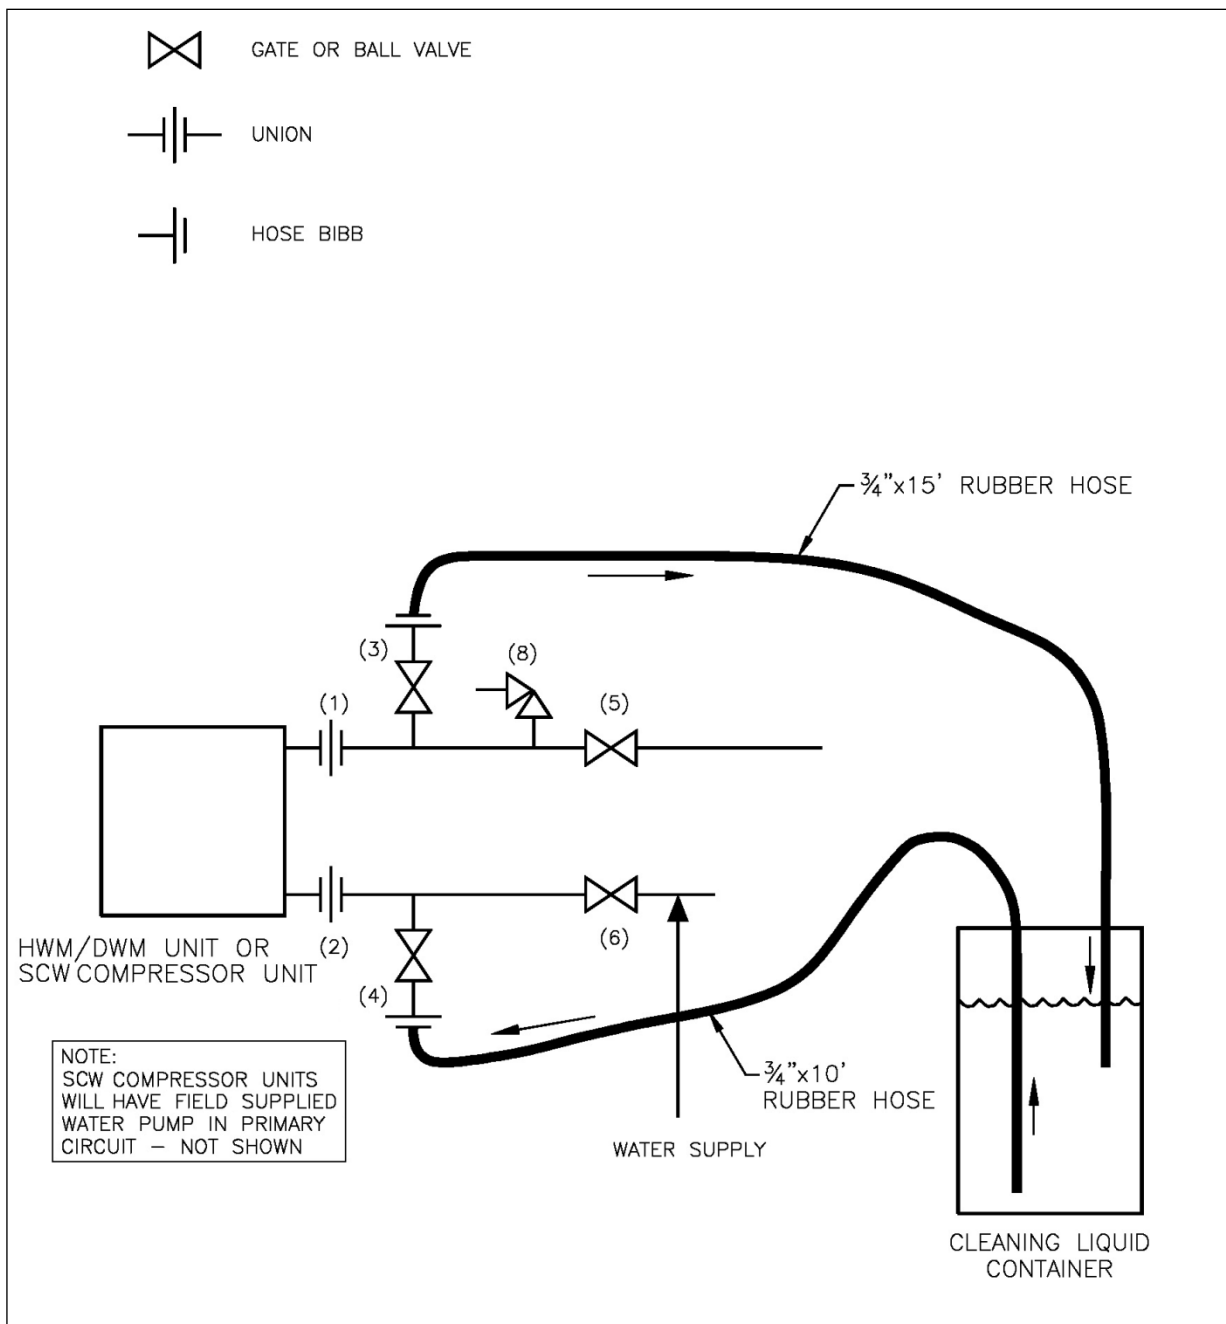

Figure 16. DWM Heat Exchanger Cleaning Set-up
If the water flow rates are less than those listed in Figure 14, above, the heat exchanger is to be cleaned by setting the system up as noted in Figure 16.
Mix 1 gallon of concentrated liquid ice machine cleaner per 15 gallons of water in a 55 gallon drum as shown in Figure 16.
Connect the 3/4" ID x 15' heavy duty hose to the hose bibb on gate valve (3) and return to the container holding the cleaning solution. Connect the 3/4" ID x 10' heavy duty hose to the hose bibb on gate valve (4) and run near to the bottom of the container holding cleaning solution. See Figure 16.